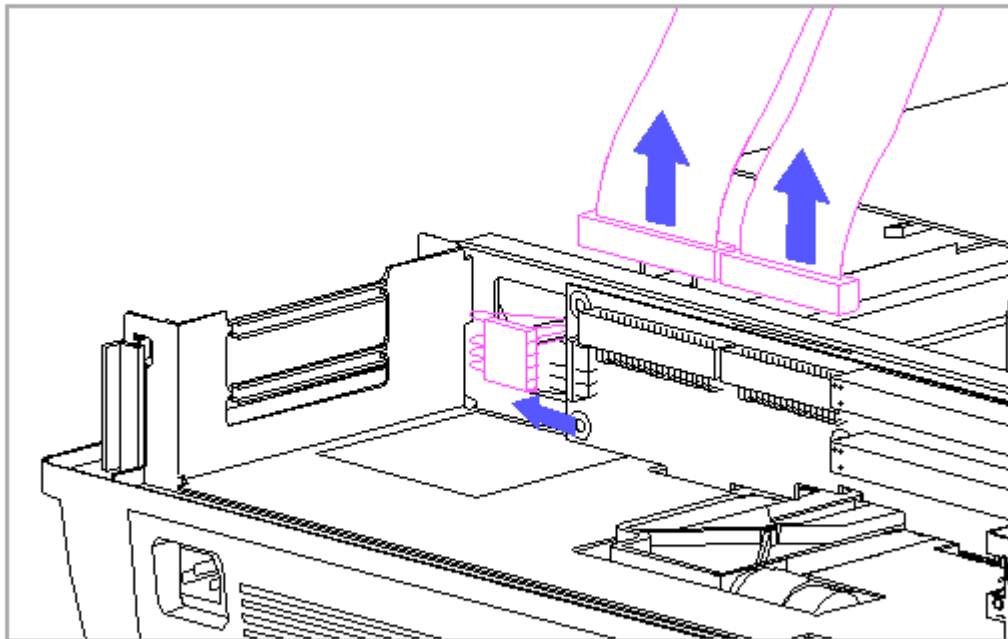

Figure 9-10. Disconnecting the Drive Cables on the Vertical Circuit Board
3. Disconnect the drive cables from the vertical circuit board (Figure 9-10).